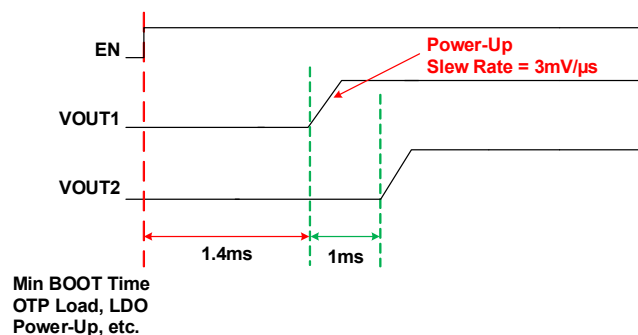

Figure 21. Master Chip Enable Power-Up Example
Note: The delay, BUCKx_EN_DLY[5:0] shown in Figure 21 as EN_dlyx, is programmable from 0 to 63ms in 1ms steps.
Figure 21 provides an example of power-up configurability. The master chip enable pin (EN) transitions from 0 to 1 and OTP is loaded over 1.4ms. After the initial 1.4ms boot interval, the buck output start-up sequence begins. In the Figure 21 example, BUCK1_EN_DLY is set for 0ms and BUCK2_EN_DLY is set for 1ms.